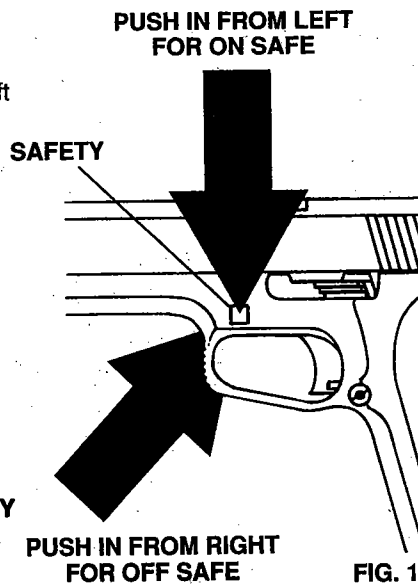

FIG. 1
A. To put the air pistol on safe, locate the safety in front of the trigger. Push the safety from the left side all the way in. (Fig. 1). The safety is not on unless it is pushed all the way in and the orange line around the safety is not showing. The air pistol will not fire when on safe.